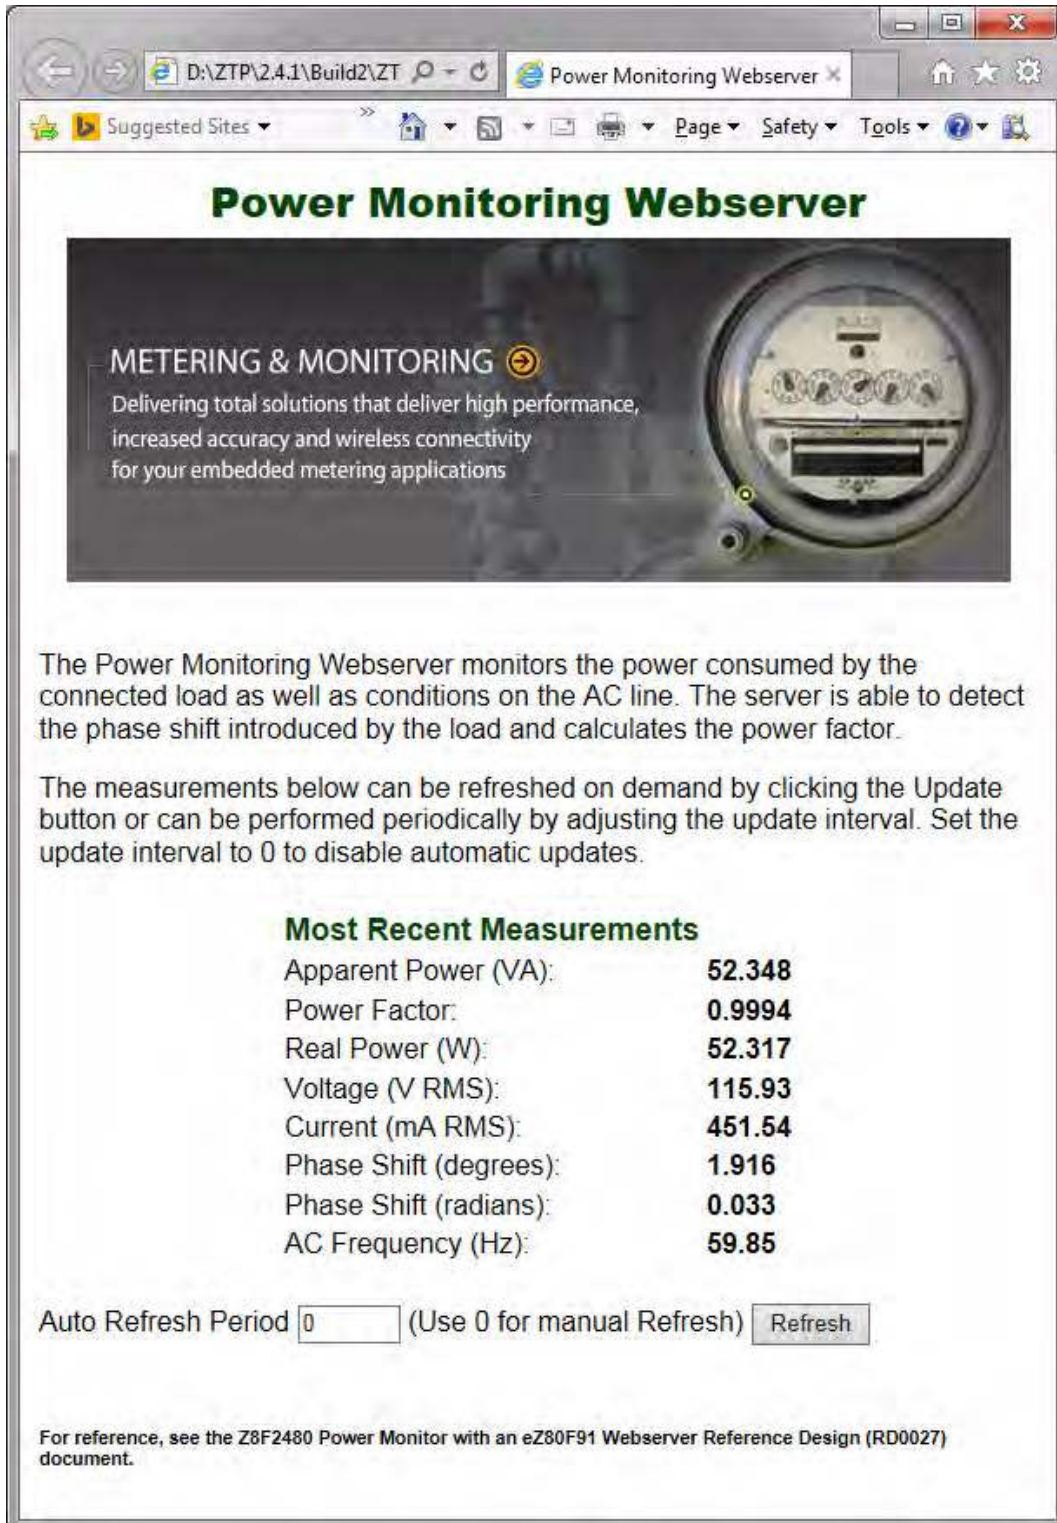

Figure 5. Monitored Measurements Displayed on a Web Page
The eZ80F91 Webserver Module contains a web page that displays the last set of AC measurements obtained by the Z8F2480 MCU. These measurements are transmitted over the optically-isolated I²C bus established through U4. The eZ80F91 Webserver Module is the I²C Master, and polls the Z8F2480 MCU (operating as the I²C slave) to obtain new measurement data. I²C requests can be initiated by this Master at any time; however, the Z8F2480 MCU only responds to requests for AC measurements when it is otherwise idle. If the Z8F2480 MCU is actively performing a measurement or updating an average, the I²C request remains pending until the active AC measurement operation/calculation completes. After obtaining the raw measurements, scripts on the web page convert the data into a human-readable format and display the results. A sample of the measurements displayed on the web page is shown in Figure 5.
- **Note:** When input exceeds recommended operating conditions, the web page shown in Figure 5 will display a warning message.